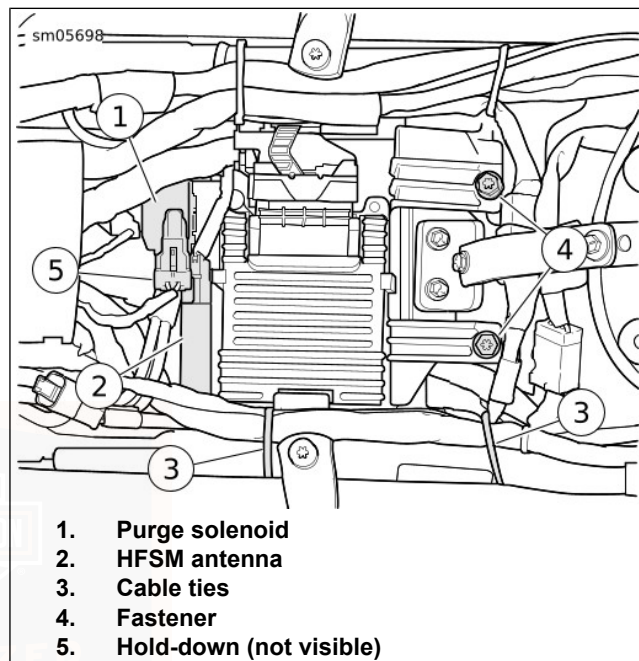
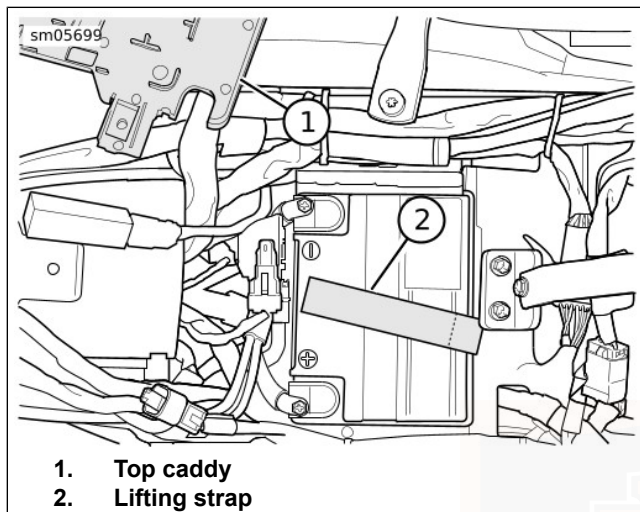

Figure 72. Top Caddy
Figure 73. Move Top Caddy Aside
2. See Figure 72. If present, move purge solenoid (1) forward to release from top caddy. Release HFSSM antenna (2) from top caddy and move out of the way.
3. Remove fasteners (4).
4. Cut cable ties (3) and move harnesses to allow more clearance for the top caddy.
5. See Figure 73. Release top caddy from front hold-down bracket and rotate top caddy (1) out of the way.
6. See Figure 73. Fold lifting strap (2) forward over top of battery.
7. See Figure 72. Rotate top caddy into position above battery and engage latch on hold-down bracket.
8. If equipped, engage HFSM antenna (2) and purge solenoid (1) on top caddy. Verify all other connectors and harnesses are routed below the purge solenoid mounting tongue.
9. Fasten top caddy to frame crossmember. Tighten screws (4) to 8.1–10.9 N·m (72–96 **in-lbs**).
10. Secure harnesses to frame with cable ties (3).